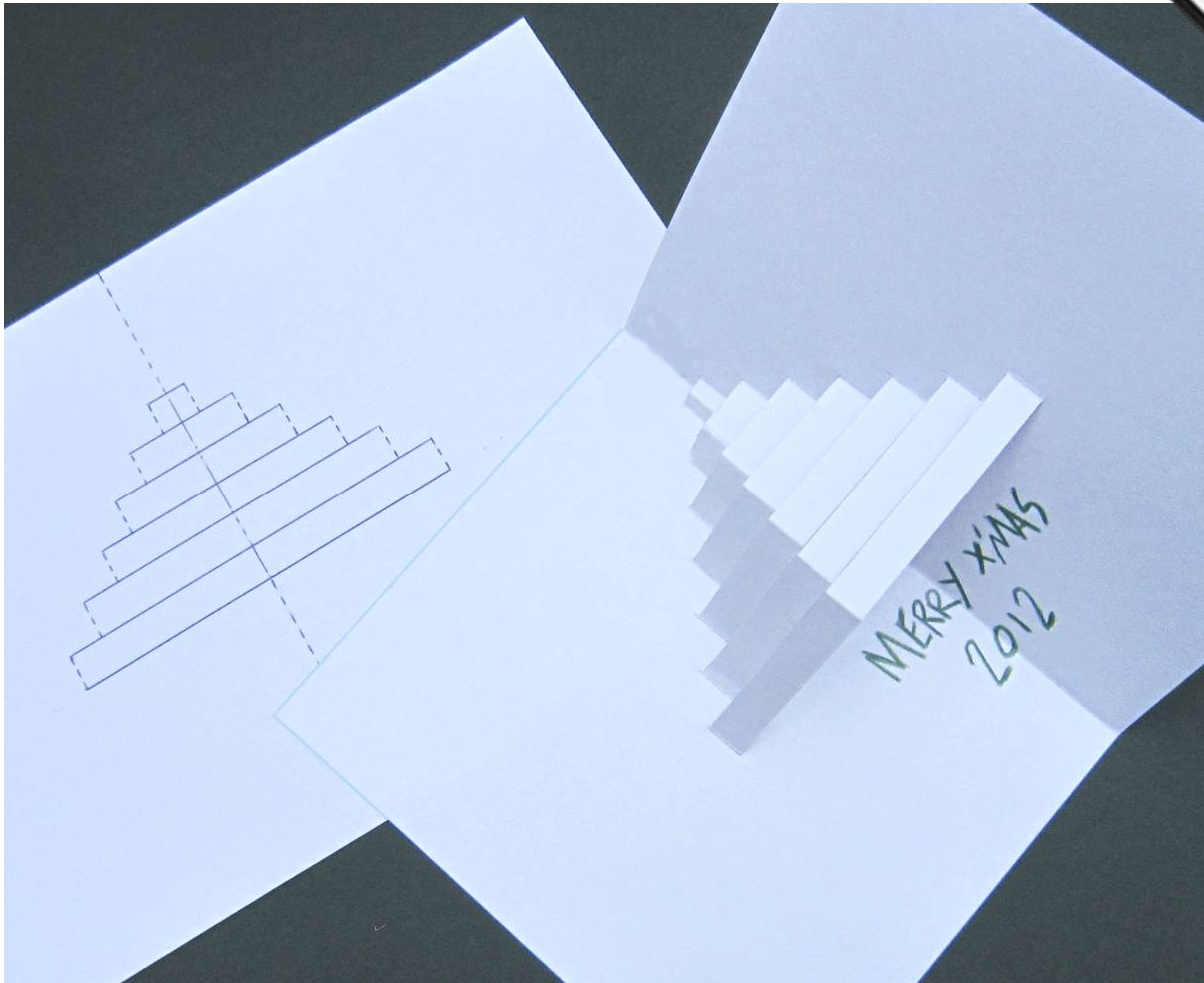

Figure 6
6. Figure 6 shows the structure of a pop-up card.